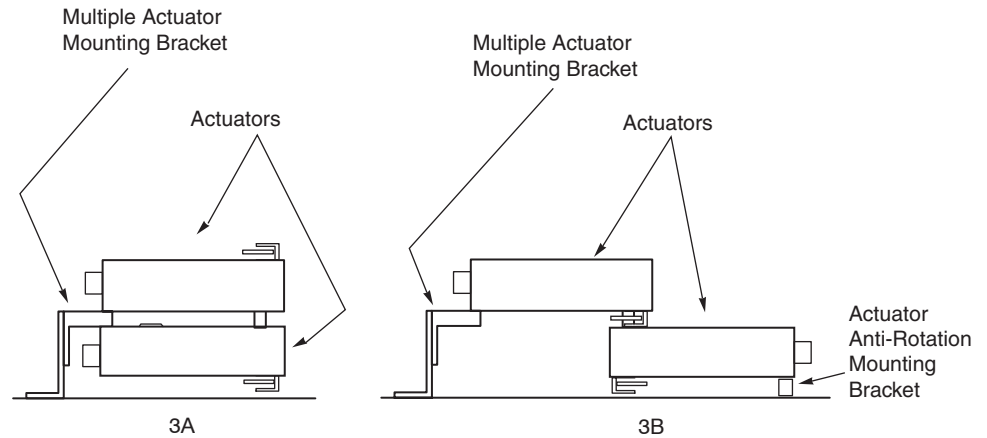

Figure-5 Installation Options for Multiple Actuator Mounting Bracket AM-673.
1. Install the universal mounting bracket onto the mounting surface, using either the four 1/4" (6.35 mm) diameter holes in its base or the five 1/4" X 5/8" (6.35 x 15.87 mm) oval holes in its edge (See Figure-5).
Determine how the two damper actuators will be mounted. Using the multiple actuator mounting bracket, it is possible to mount the actuators one directly above the other (See view 3A in Figure-5), or with the top actuator 180° opposed to the bottom actuator (See view 3B in Figure-5). Note that the advantage of mounting the second actuator directly above the first is that a smaller mounting area is required and it allows for neater routing of the actuator wires. The advantages of mounting the second actuator at 180 degrees opposed to the first are that the actuators may be mounted on a shorter damper shaft.
### Mounting Procedure (View 3A in Figure-5)